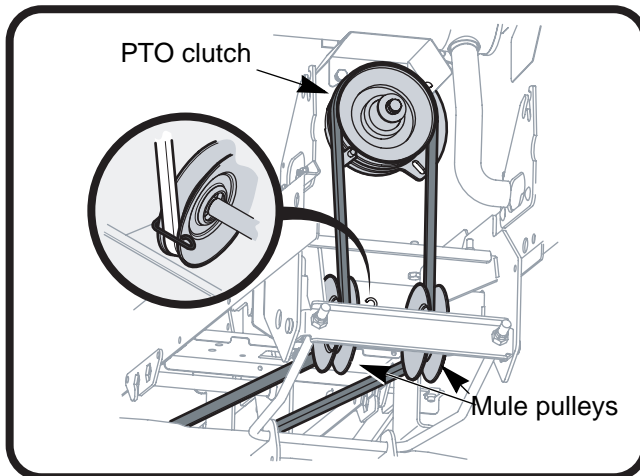

Figure 8.8
4. Gently bend the belt keeper enough to allow the belt to be removed from the mule pulley. See Figure 8.8.